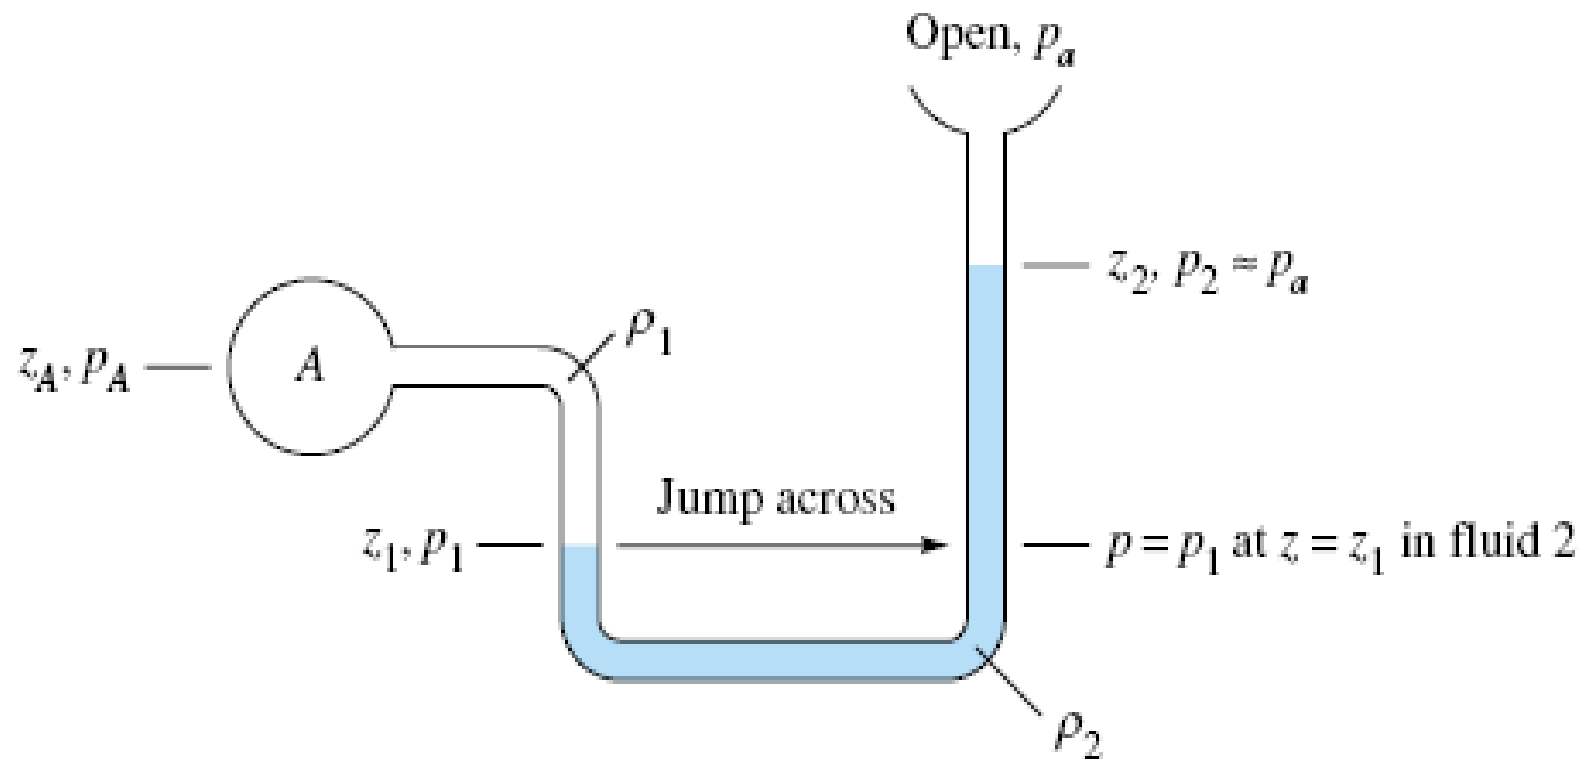

Fig. 2.4 Simple Open Manometer
- Thus, a static column of one or more liquids or gases can be used to measure pressure differences between two points. Such a device is called a manometer (Fig. 2.4).
- The simple open manometer shown in Fig. 2.4 measures the pressure difference between point A and the atmosphere. The two pressures P_A and P_a can be related as